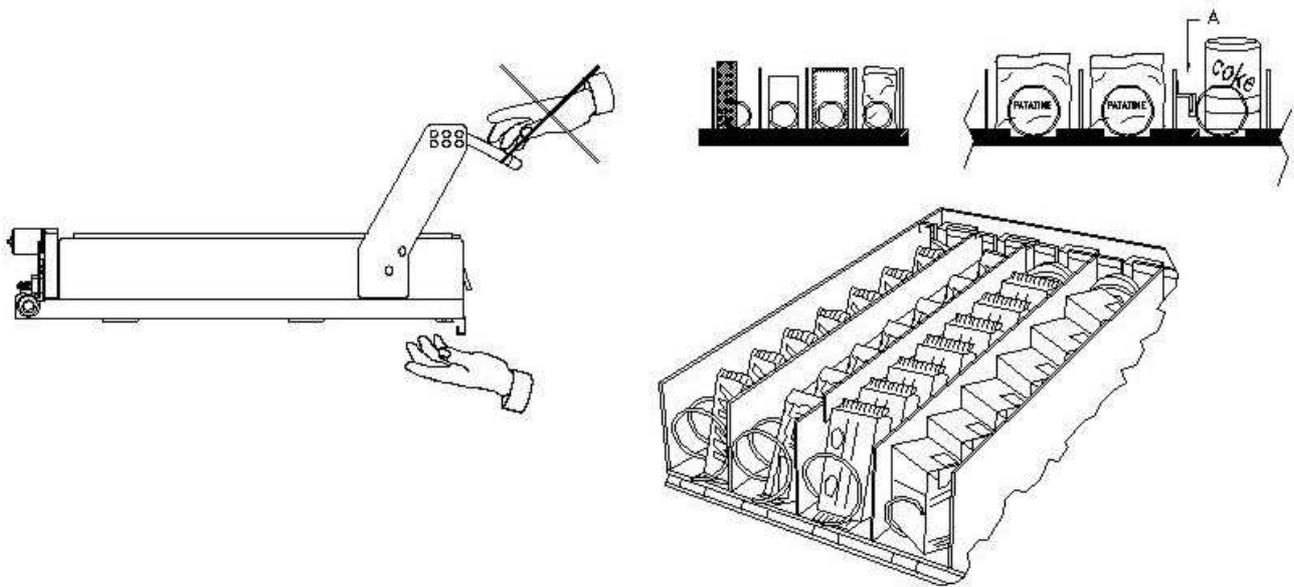

fig. 3
9.2 ENTRETOISES POUR PRODUITS DANS LES TIROIRS (fig.3)